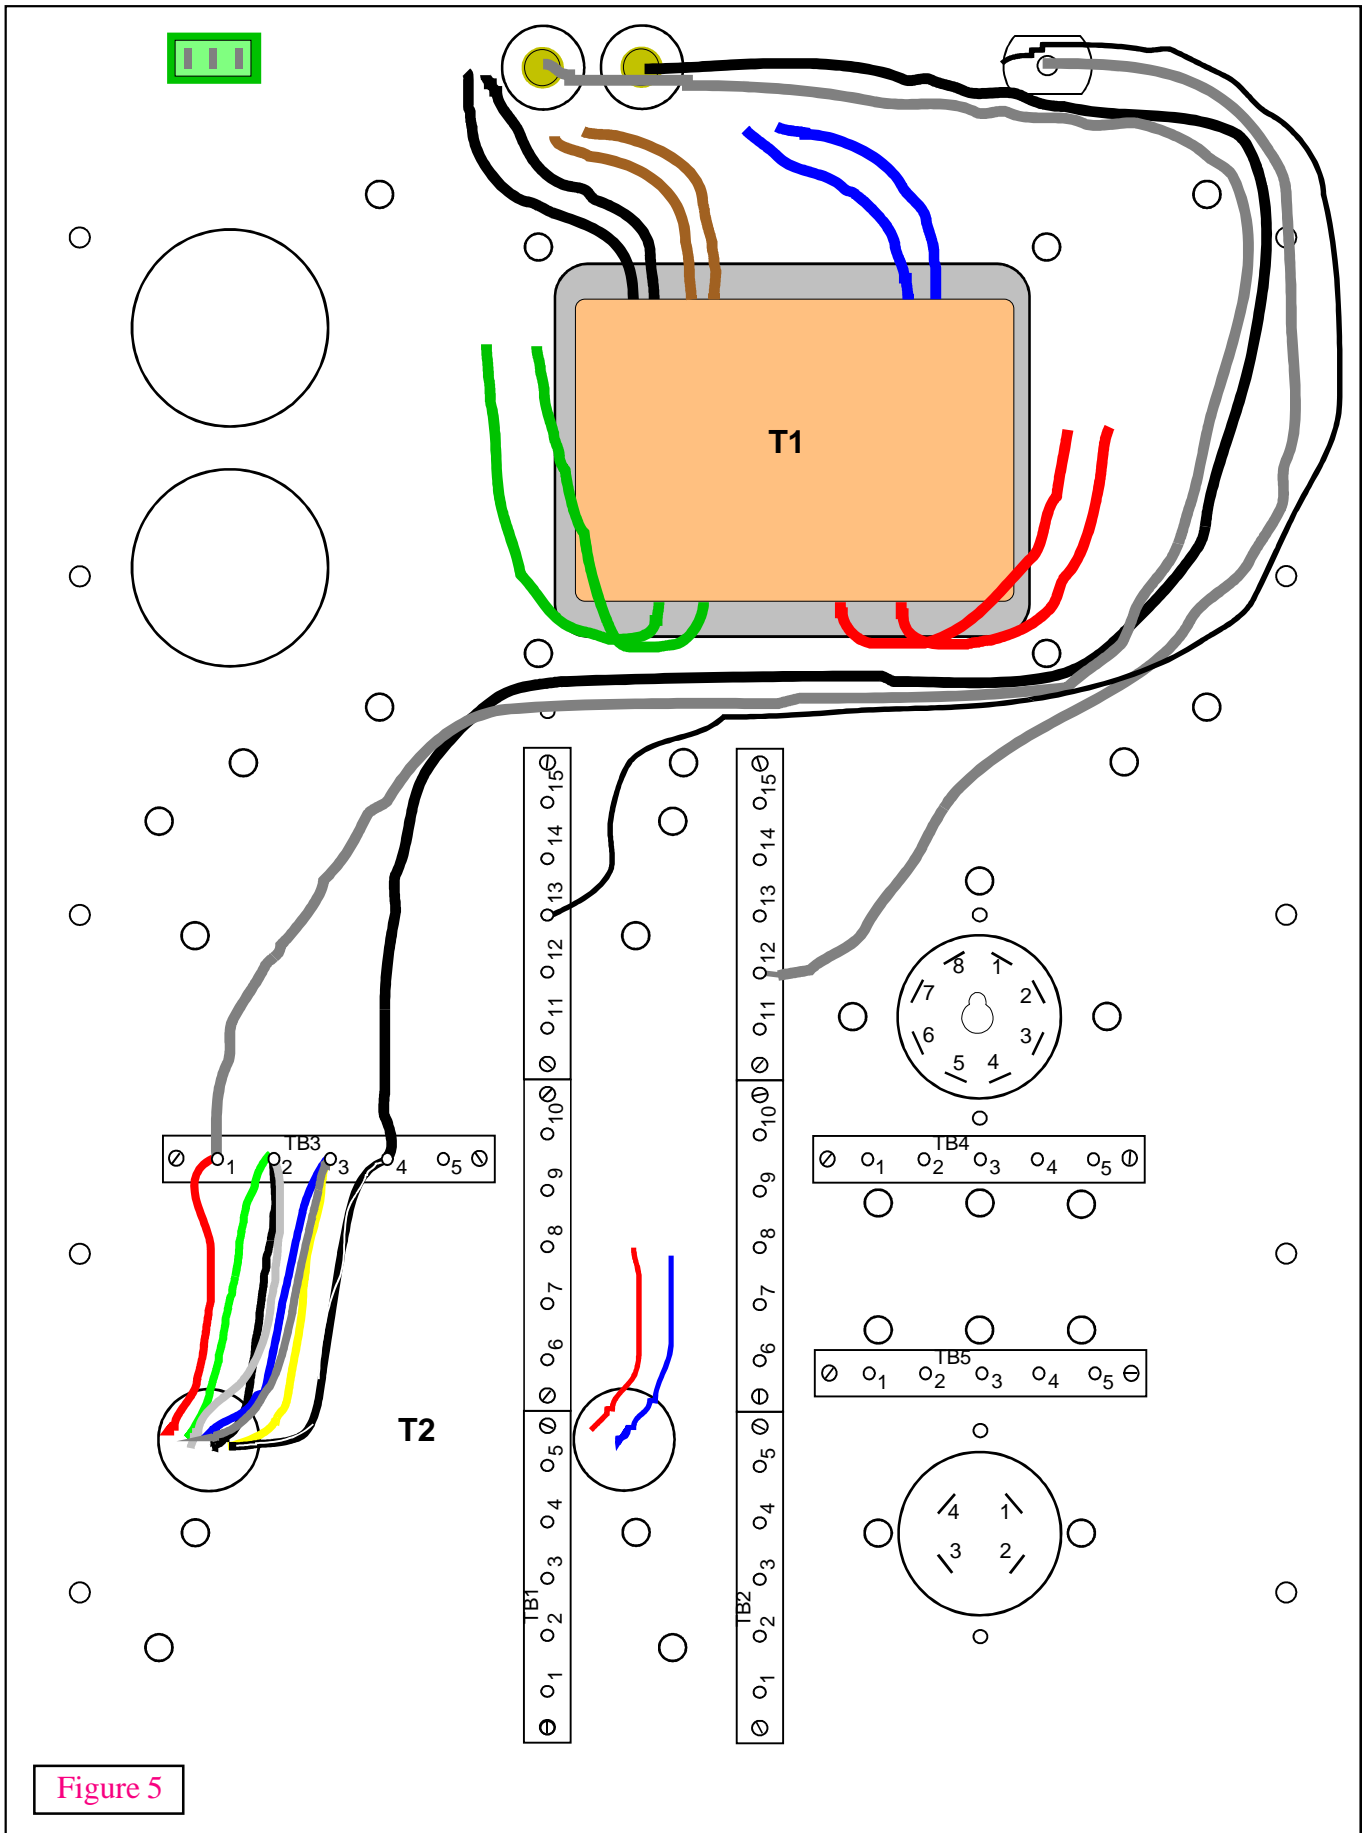

Figure 5
3. Refer to figure 5 for the following steps.
Refer to the table below for the output transformer coding. The output impedances are selected by connecting the eight color coded secondary leads as shown below. Terminal Strip 3 (TB3) has been set up to facilitate the configuration of the output transformer wiring. Figure 5 depicts the connection for 8 ohms, however the terminals of TB3 can be used for connecting any of the configurations below. If you decide to shorten the output leads of the output transformer, the red enamel coating on the wires must be removed before soldering to the terminals. This can be easily done by applying a small amount of solder to the enamel coating which will melt it away. Connect the transformer leads to TB3 by stripping approximately 1/2 inch of the enamel coating from each end, bending the end into a small loop around the terminal lugs of TB3, and soldering.
Route the white wire from the positive binding post, as shown in figure 5, and solder to TB3-1. Route the black wire, from the negative binding post, and solder to TB3-4 (for 8 ohm connection).
Route the coax wire from the rca jack, as shown in figure 5, and solder to TB2-12. Route the black rca jack ground wire, as shown in figure 5, and solder to TB1-13.